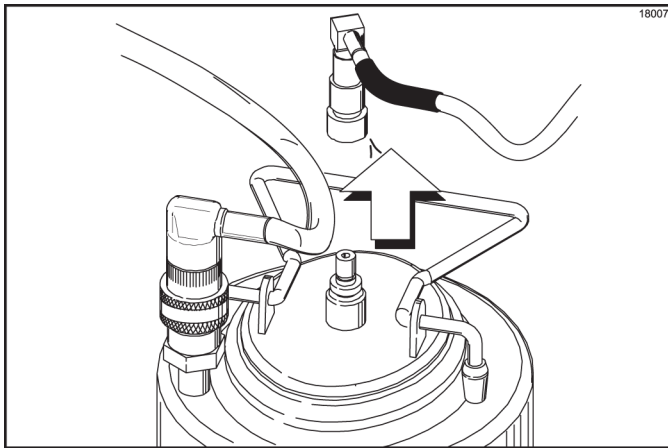

Figure 6-56
1. Pull back on the collar of the quick disconnect fitting for the air line. Allow the air pressure to escape from the syrup tank. (See Figure 6-56.)